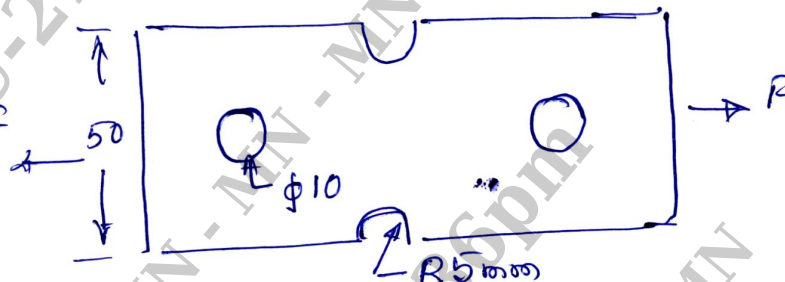

Fig.Q1(b)
- b. Determine the safe load that can be carried by a bar of rectangular cross section shown in Fig.Q1(b). Limiting the maximum stress to 130 MPa taking stress concentration into account and assume thickness of bar as 10 mm.
- 1 A four bar mechanism with the following dimensions is acted upon by a force 80N, 150° on the link DC. Determine the input torque on the link AB for the static equilibrium of the mechanism for the given configuration Fig. Q1. AB = 400mm, BC = 1000mm, CD = 750mm and DE = 350mm, AD = 500mm. (20 Marks)